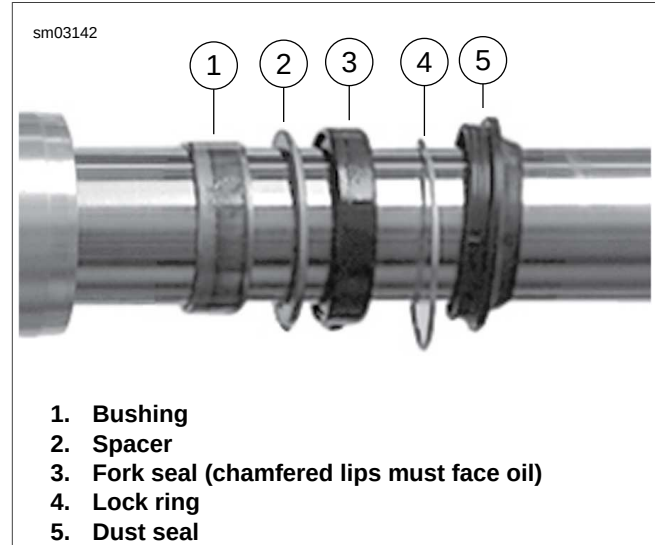

Figure 2-192. Seal Components
2. See Figure 2-192. Install chrome dust cover (not shown) and components onto fork slider in order shown.